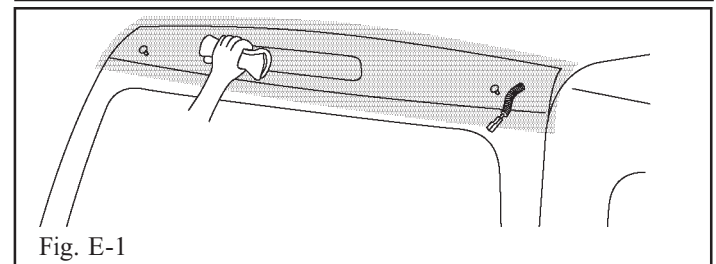

Fig. E-1
- 1. The Rear Wind Deflector attachment area (including high-mount stop-light opening) must be cleaned with 3M™ Prep Solvent-70 and a lint free cloth. (Fig. E-1)